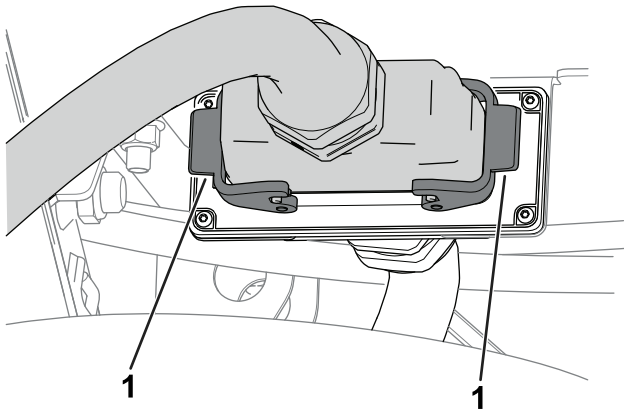

Figure 6
8. Use the machine-connector latches to secure the connection (Figure 6).